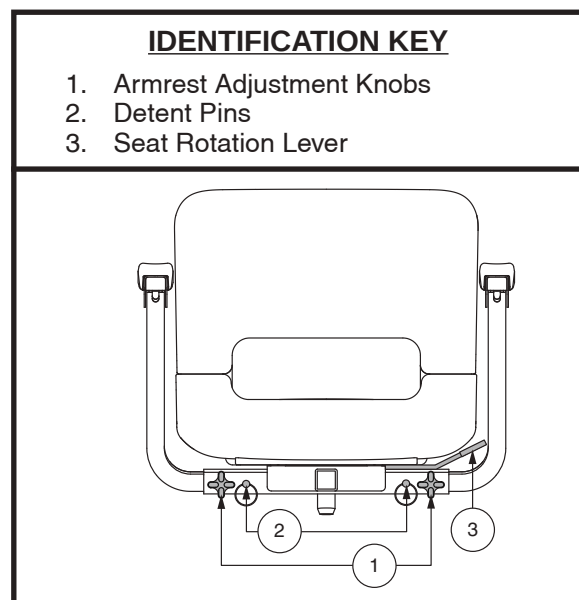

Figure 29. Seat Adjustments
The seat rotation lever, located on the right side of the seat base, secures the seat into several positions. See figure 29.
1. Loosen the armrest adjustment knobs. **See figure 29**